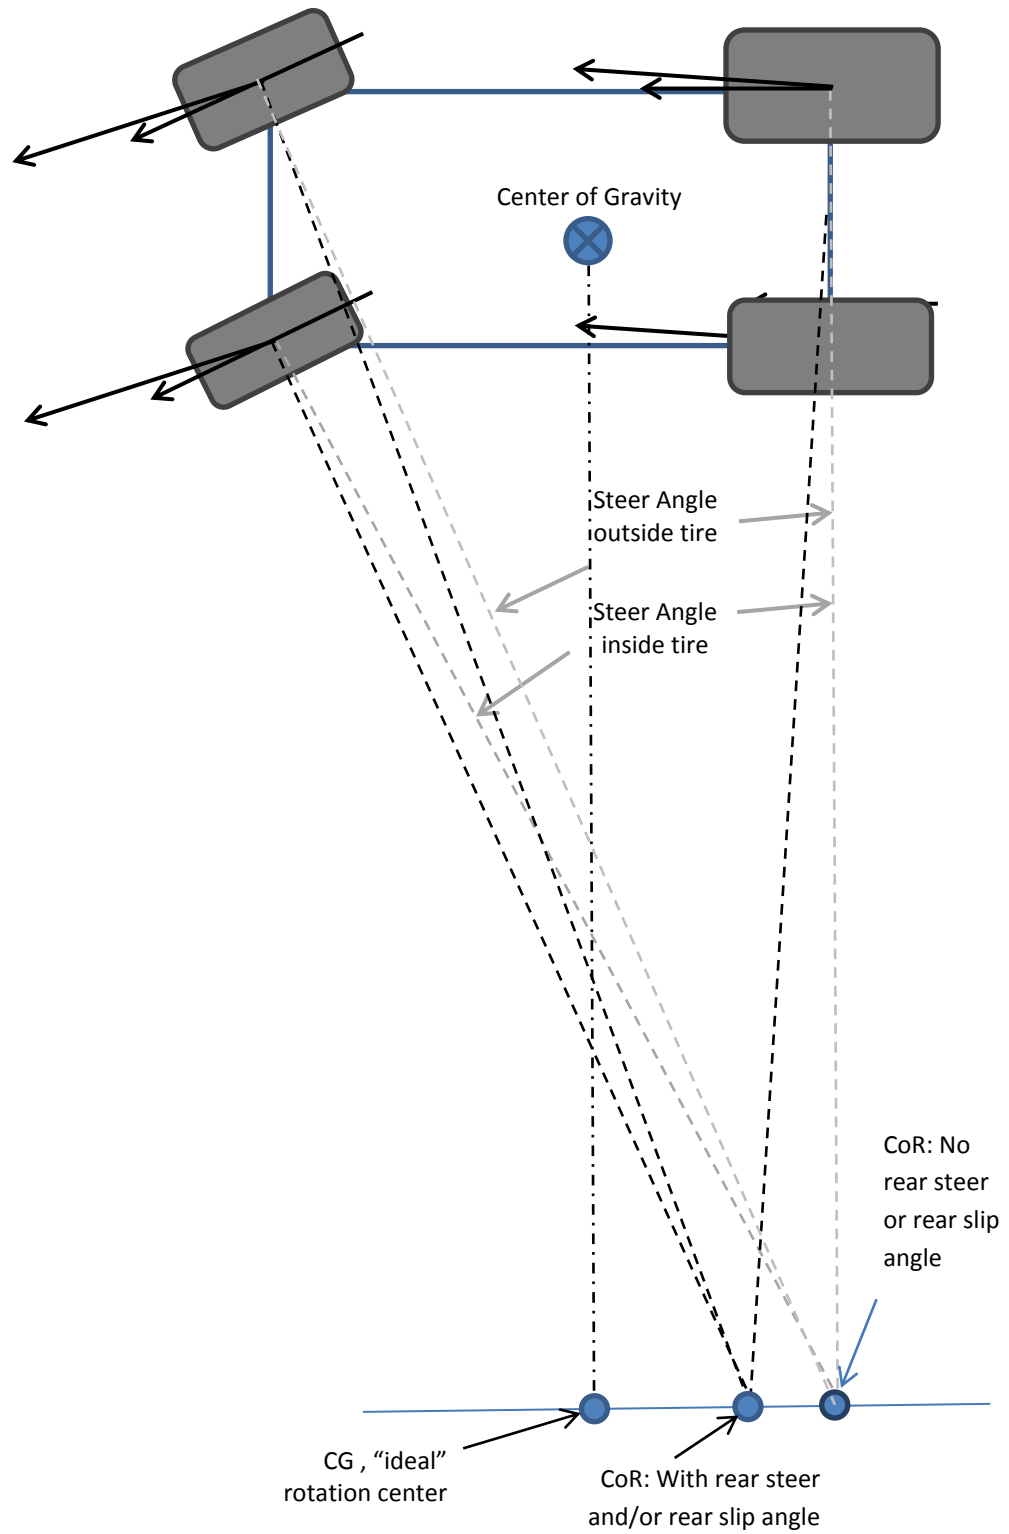

Figure 10: Steer with rear slip angles and/or rear steer
Figure 10 presents a view of a race car with Ackerman steering in a turn producing front and rear slip angles. As the car begins to produce rear slip angle, note that the center of rotation (CoR) moves forward. As the CoR moves forward it moves closer to the center of gravity (CG) line. If the CG and the center of rotation move to the same line there is no requirement for the center of gravity to be “pushed” sideways by the front steer tires, hence only rotation of the CG occurs and the entire vehicle rotates about the center of rotation. This means better rotation of the entire vehicle and quicker response times.
Equation 5 shows that the front tire slip angle adds to the steer angle (SA) needed at the front tires while the rear tire slip angle decreases the steer angle required. Note also in Figure 10 the amount of Ackerman steer needed is also reduced as the CoR moves forward along the wheelbase length. You may also find the amount of rear stagger can be reduced as the CoR moves closer to the CG line.